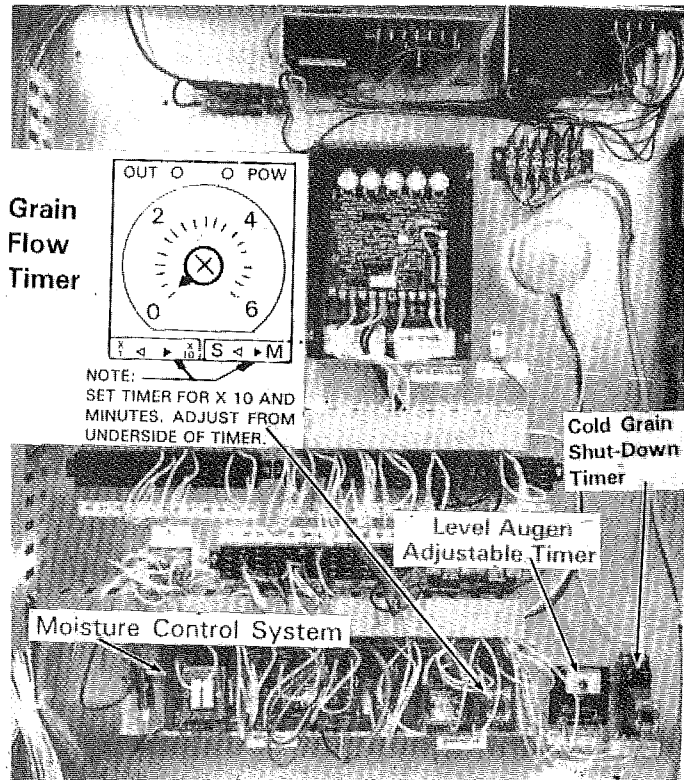

Figure 24
There is an adjustable 0 to 3 minute delay in the level auger circuit. See Figure 24. It is activated when the level auger switch is in the AUTOMATIC position and the level auger light is signaling for grain.
The Grain Flow Timer, Figure 24, will shut the dryer down if there is an insufficient grain supply to fill the hopper. When the level auger starts, the Grain Flow Timer will be activated. When the timer counts down to zero, the dryer will shut down and the Grain Flow light will come on.
1. Set the adjustable level auger delay, Figure 24, for time desired (0 to 3 minutes).
3. Check the time that it takes the level auger to refill the wet hopper (6) times. The length of time that the level auger light is ON plus the 0 to 3 minute delay is the refill time.
4. Average the 6 refill times and reset the Grain Flow Timer, Figure 24, to run 5 minutes longer. For example, if it takes the level auger an average of 5 minutes to refill the dryer, set the Grain Flow Timer to run 10 minutes.
Set the timer arrows at the bottom of the timer face to X10 (times ten) and to M (minutes). Now turn the time control knob to 3 (3x10) or 30 minutes for a starting point, see Figure 24.